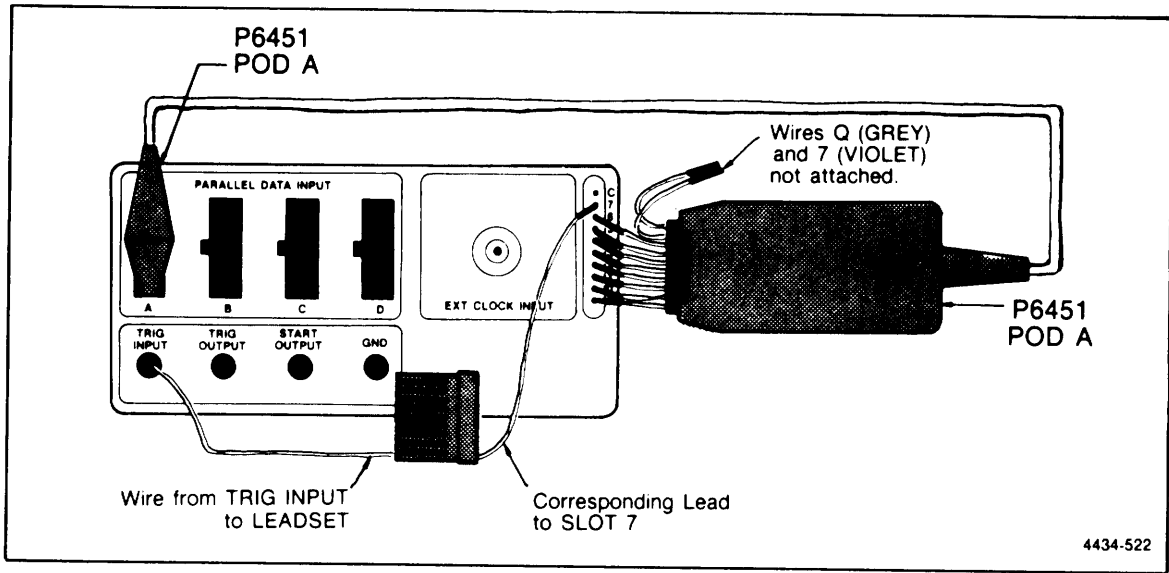

Figure 5-42. 338 External trigger check setup.
- Refer to Figure 5-42. Power up the 338 and connect the data leads of the P6451 Parallel Data probe in Pod A to TEST OUTPUT as follows: